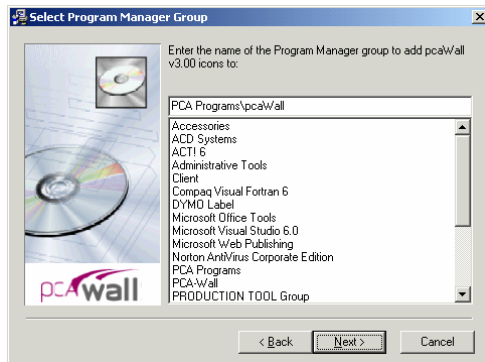

Figure 1-6. Select Program Manager Group
8. The next step is to enter the group name as shown in Figure 1-6. Windows will use this name in the Start/Programs menu. Press the NEXT button to go to the next step.